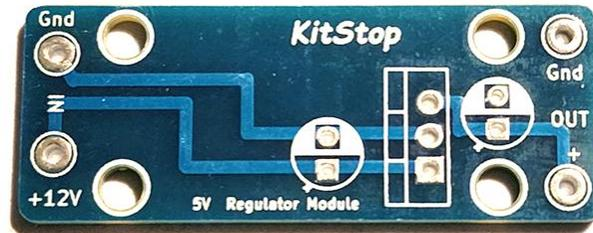

Fig. 3 : Close up of the Blank PCB
Step 1: Identify the Blank PCB as shown in figure 3.